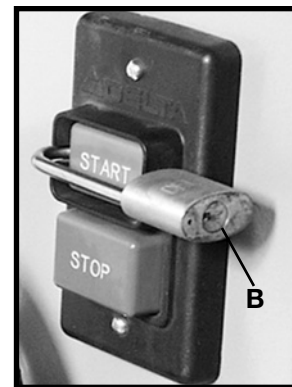

Fig. 30B
IMPORTANT: When the machine is not in use, the switch should be locked in the "OFF" position to prevent unauthorized use, using a padlock (B) Fig. 30B with a 3/16" diameter shackle.